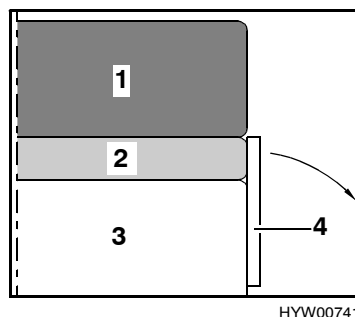

Fig. 52 Prior to conversion
- Release bedding box front wall (Fig. 52,4) from the locking device.